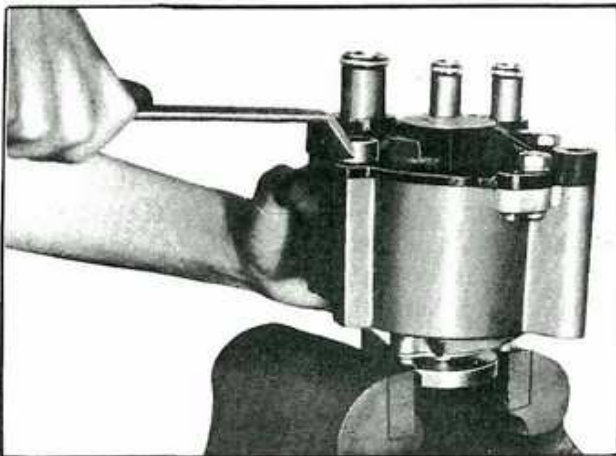

Fig. EC-21 Removing end cover
2. Clamp air pump drive hub in a vise, as shown in Figure EC-21 and remove four housing end cover bolts.